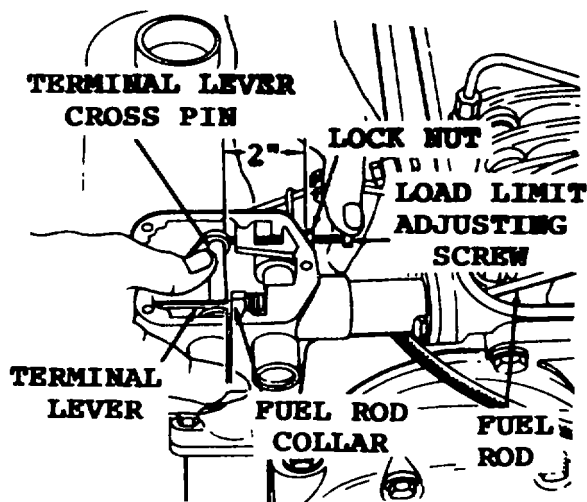

Figure 3-22. Adjusting Load Limit
- (7) Connect the oil inlet tube assembly (1) to the governor oil inlet plug.
- (8) Pour approximately one pint of engine lubricating oil (item 8, Appendix C) in the top of the governor to provide initial governor lubrication.
- (9) Affix a new gasket (4) to the top of the governor sub-cap. Place governor cover (3) on top of the gasket and install cover screws (2). Tighten the screws securely.
Refer to paragraph 3-34 and adjust injector rack before adjusting the governor. (1) Refer to figure 3-22 and loosen the load limit adjusting screw locknut and adjust the screw to obtain a distance of approximately 2 inches from the outside face of the boss on the governor sub-cap to the end of the screw.
- (2) Place the fuel rod and terminal lever in the full-fuel position.
- (3) Turn the load limit screw until a .020 inch space exists between the fuel rod collar and the terminal lever, then hold the screw and tighten the locknut.
- (4) Start the engine and operate at approximately one-half the rated no-load speed until the lubricating oil has had an opportunity to warm up.